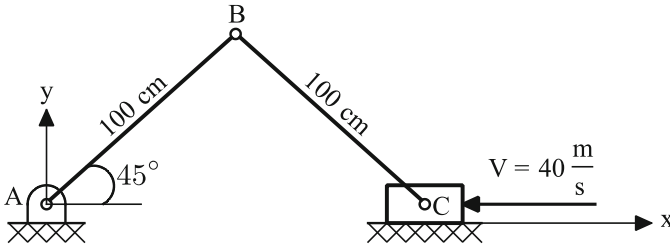

Fig. 2.50 Link AB rotational velocity
14. In Fig. 2.50, obtain ω_{AB} in rad/s.